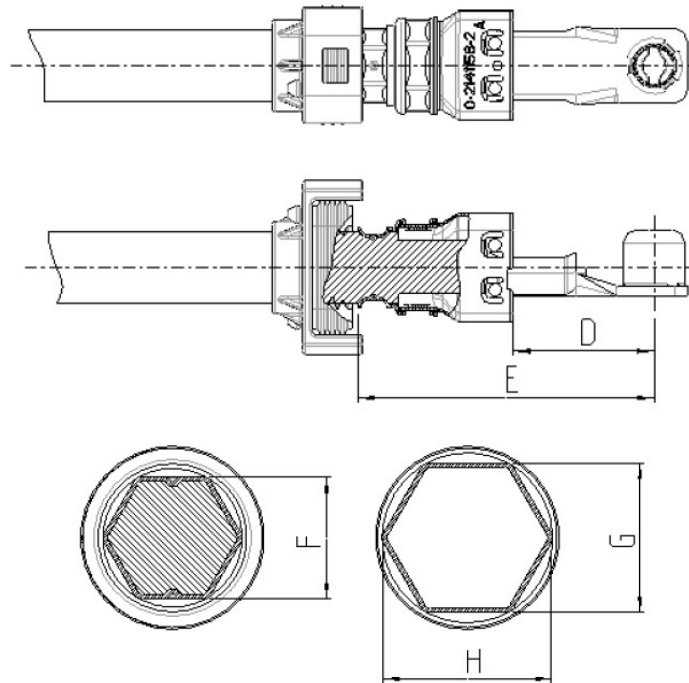

Figure 10: Inspection dimensions of shield crimp
- Hex crimp dimensions per figure 10 and table 7